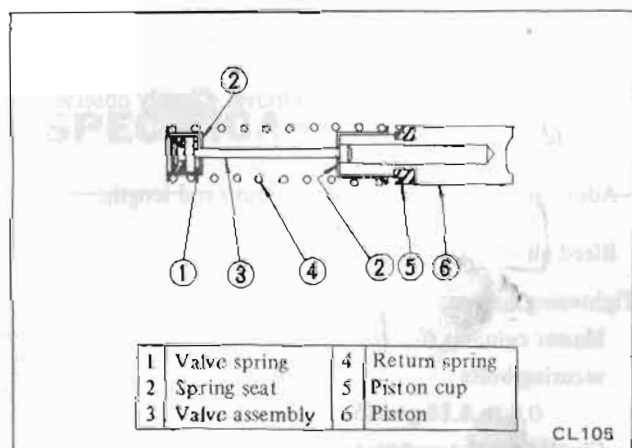

Fig. CL-18 Piston assembly
3. When replacing piston cup, disassemble piston assembly by straightening the tooth of spring seat, if necessary. See Figure CL-18.